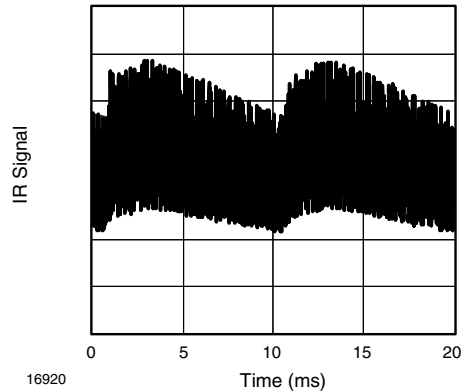

Fig. 15 - IR Signal from Fluorescent Lamp with Low Modulation
- Strongly or weakly modulated noise from fluorescent lamps with electronic ballasts (see fig. 15 or fig. 16)
Suppression of interference from fluorescent lamps	Even critical disturbance signals are suppressed (e.g. waveform of figure 15)